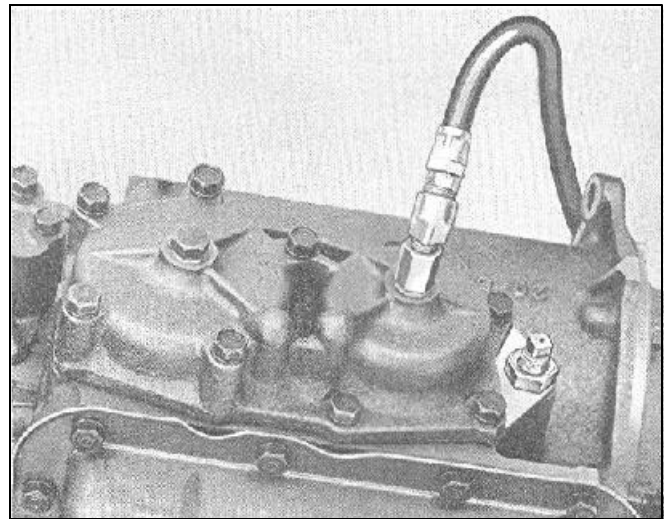

FIGURE 150
1. With the engine stopped, use a 9/16" wrench to remove the cap screw and copper gasket from the low servo cylinder, Figure 150, and install the proper pressure gauge fitting at this point.